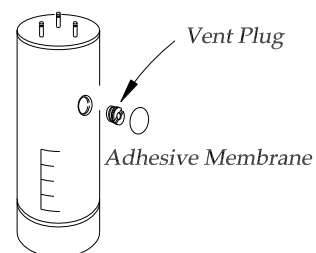

Fig. 5.1.12
9. Remount the vent plug (fig. 5.1.12), cover the vent plug with a new adhesive membrane and gently shake the sensor to dislodge any air bubbles which may have formed around the electrode.
- Blind plug (in the electrolyte supply opening, see fig. 5.1.12)